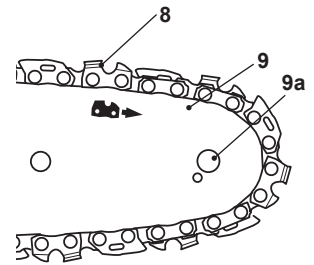

Fig. 4
6. The saw chain movement is as indicated by the arrow. Make sure the saw chain (8) is properly placed over the sprocket wheel (9a) of the guide bar (9) (Fig. 4).